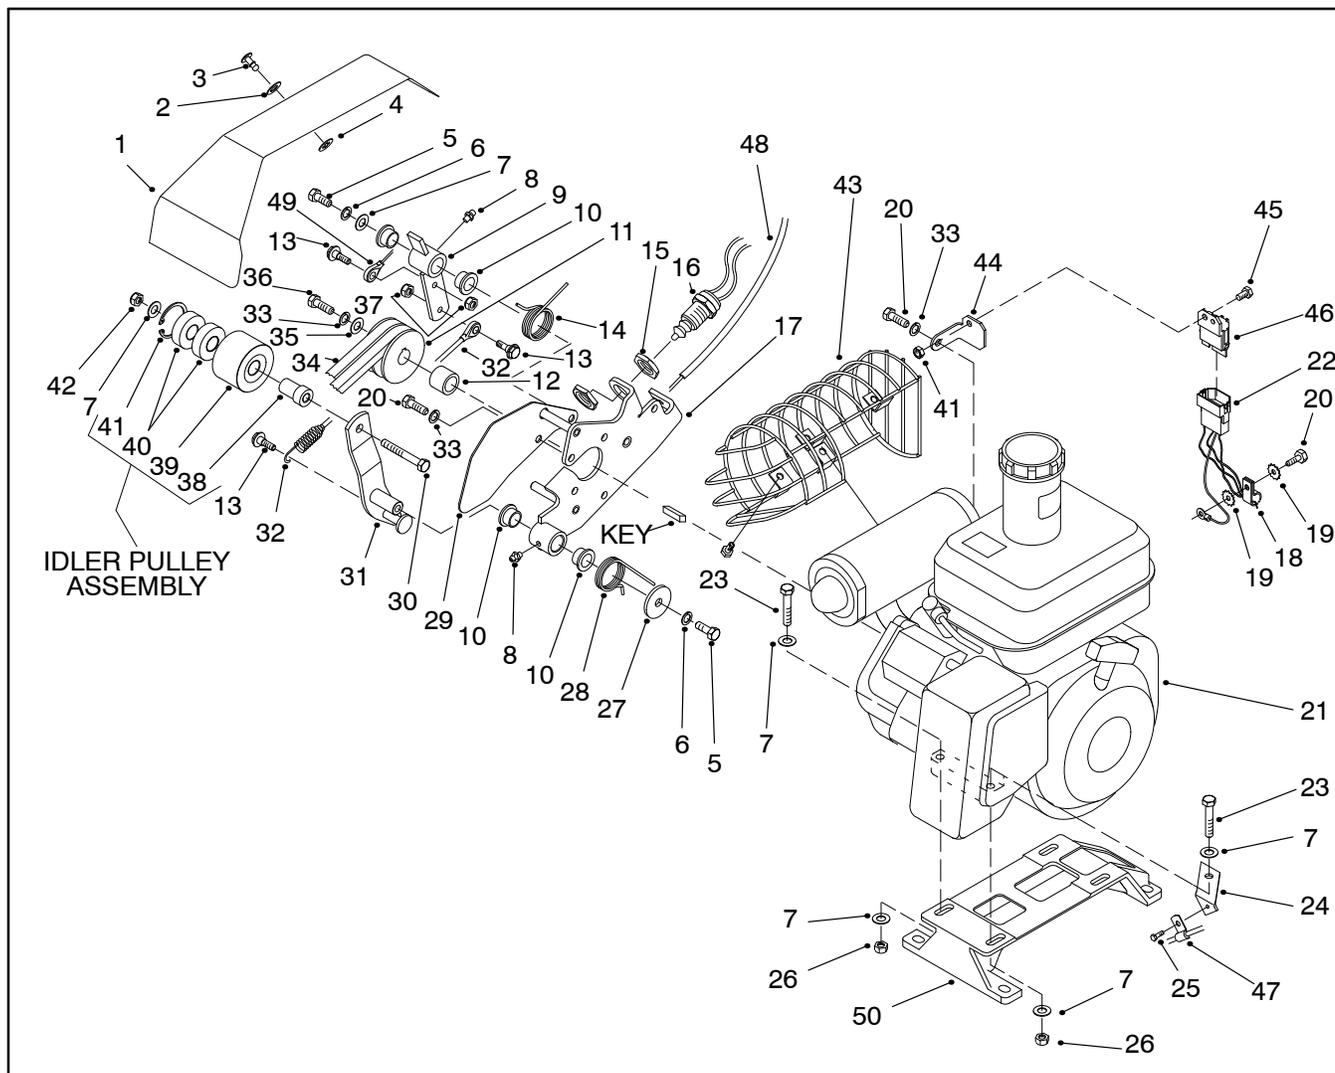
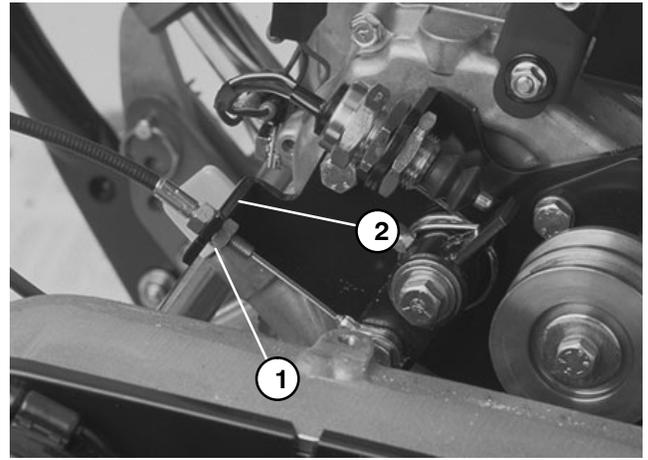
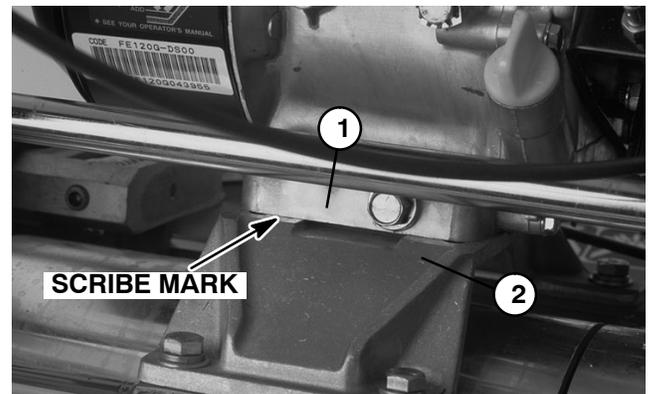
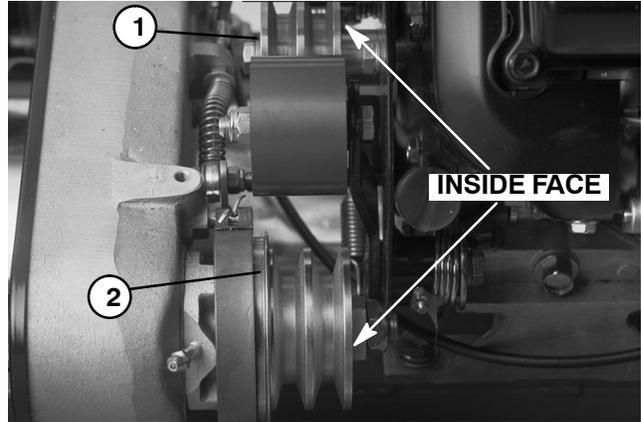

Figure 12
Figure 13
Figure 15
Figure 16
Note: Engine speed is measured at the input drive pulley (Fig. 12). Actual engine speed is twice the input drive pulley speed.
3. To increase V-belt tension, loosen cap screws securing the engine to the engine base (Fig. 12). Move engine backwards in slots. **DO NOT OVER TENSION BELTS.** Tighten cap screws.
2. Remove pulley V-belts (Fig. 12).
A. Make sure clutch is DISENGAGED so the V-belts (34) are slackened. Make sure service brake is DISENGAGED so the input shaft pulley can turn.
B. Open bellcrank cover (1) on the counter shaft housing to get access to the clutch. Remove V-belts one at a time by sliding the belt off the idler pulley (39) first.
3. Remove clutch cable (Fig. 12).
A. Remove shoulder bolt (13) and lock nut (37) from the clutch cable eyelet (49) and lever (9).
B. Loosen lower jam nut holding the clutch cable to the clutch bracket. Remove clutch cable from the clutch bracket and clear of engine (Fig. 13).
B. Remove cap screw (23), flat washers (7), and lock nut (26) from the engine base (49) and throttle cable bracket (24). Pull throttle cable (47) and bracket clear of the engine (Fig. 12).
A. Scribe a mark on the engine base at the bottom of the engine for reassembly purposes (Fig. 15).
B. Disconnect both black\white wires on the clutch switch (16) from both brown wires.
C. Remove remaining cap screws (23), flat washers (7), and lock nuts (26) from the engine base (49). Remove the engine from the cutting unit.
6. The bellcrank assembly can be removed from the engine with minimum disassembly (Fig. 12).
A. Remove cap screw (36), lock washer (33), and washer (35) from the engine shaft. Remove pulley (11), key, and spacer (12) from the engine shaft.
B. Remove five cap screws (20) and lock washers (33) securing the belt shield (29) and clutch bracket (17) to the engine block.
3. Make sure bellcrank cover (1) is open on the counter shaft housing to get access to the clutch (Fig. 12).
4. If the bellcrank assembly was removed from the engine (21), reassembly as follows (Fig. 12):
A. Position clutch bracket (17) to the engine with the long arm of the clutch torsion spring (28) under the engine.
B. Position belt shield (29) to the engine. Secure belt shield and clutch bracket to the engine with five cap screws (20) and lock washers (33).
D. Place engine shaft spacer (12) on the engine shaft and reinstall key. Apply never seize to the shaft.
E. Place input drive pulley (11) on the engine shaft with the counter bore out. Secure pulley to the shaft with cap screw (36), lock washer (33), and washer (35).
5. Reinstall engine (21) to engine base (50) (Fig. 12).
B. Install four cap screws (23) and flat washers (7) through the engine and engine base. Install throttle cable bracket (24) under the left front cap screw. Put flat washer and lock nut (26) on each cap screw and hand tighten.
C. Use scribe mark on engine block to align engine. The distance between engine output shaft center and power shaft center should be from 5.11 to 5.23 inches (130 to 133 mm). Inside pulley faces should be flush to each other to within 0.030 inch (0.762 mm) maximum (Fig. 16).
E. Reconnect both black/white wires on the clutch switch (16) to both brown wires.
A. Reinstall clutch cable into notch of clutch bracket and clear of engine. Tighten lower jam nut holding clutch cable to clutch bracket (Fig. 13).
B. Place shoulder bolt (13) through the clutch cable eyelet (49) and lever (9). Secure shoulder bolt with lock nut (37) (Fig. 12).
8. Reinstall pulley V-belts (Fig. 12).
B. Install V-belts (34) one at a time by placing a belt into the inner groove of the input drive pulley (11) first. Place the second belt into the outer groove of the input drive pulley and then the outer groove of the input shaft pulley. Place the loose end of the first belt into the inner groove of the input drive pulley.